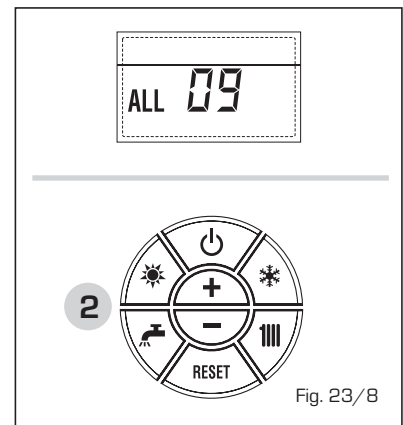

Fig. 23/8
**- ANOMALIA Sonda AUXILIAR “ALL 10” (fig. 23/9)**